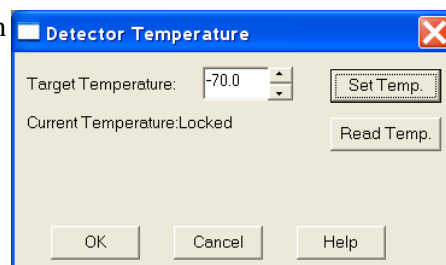

Figure 38. Temperature dialog
1. Open the WinSpec/32 Setup menu and click on **Detector Temperature**. This will cause the Temperature dialog to appear as shown in Figure 38.